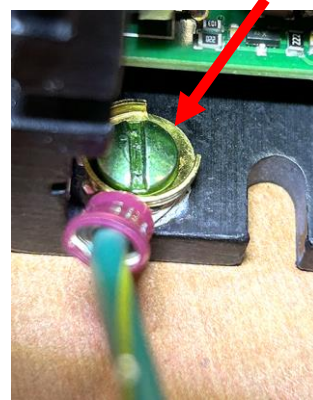

Figure 30
32. Attach the green ground wire removed from the old VFD in step 27 to the new VFD ground terminal (see Figure 30).